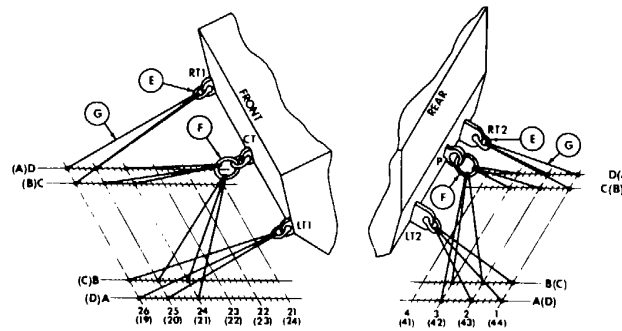
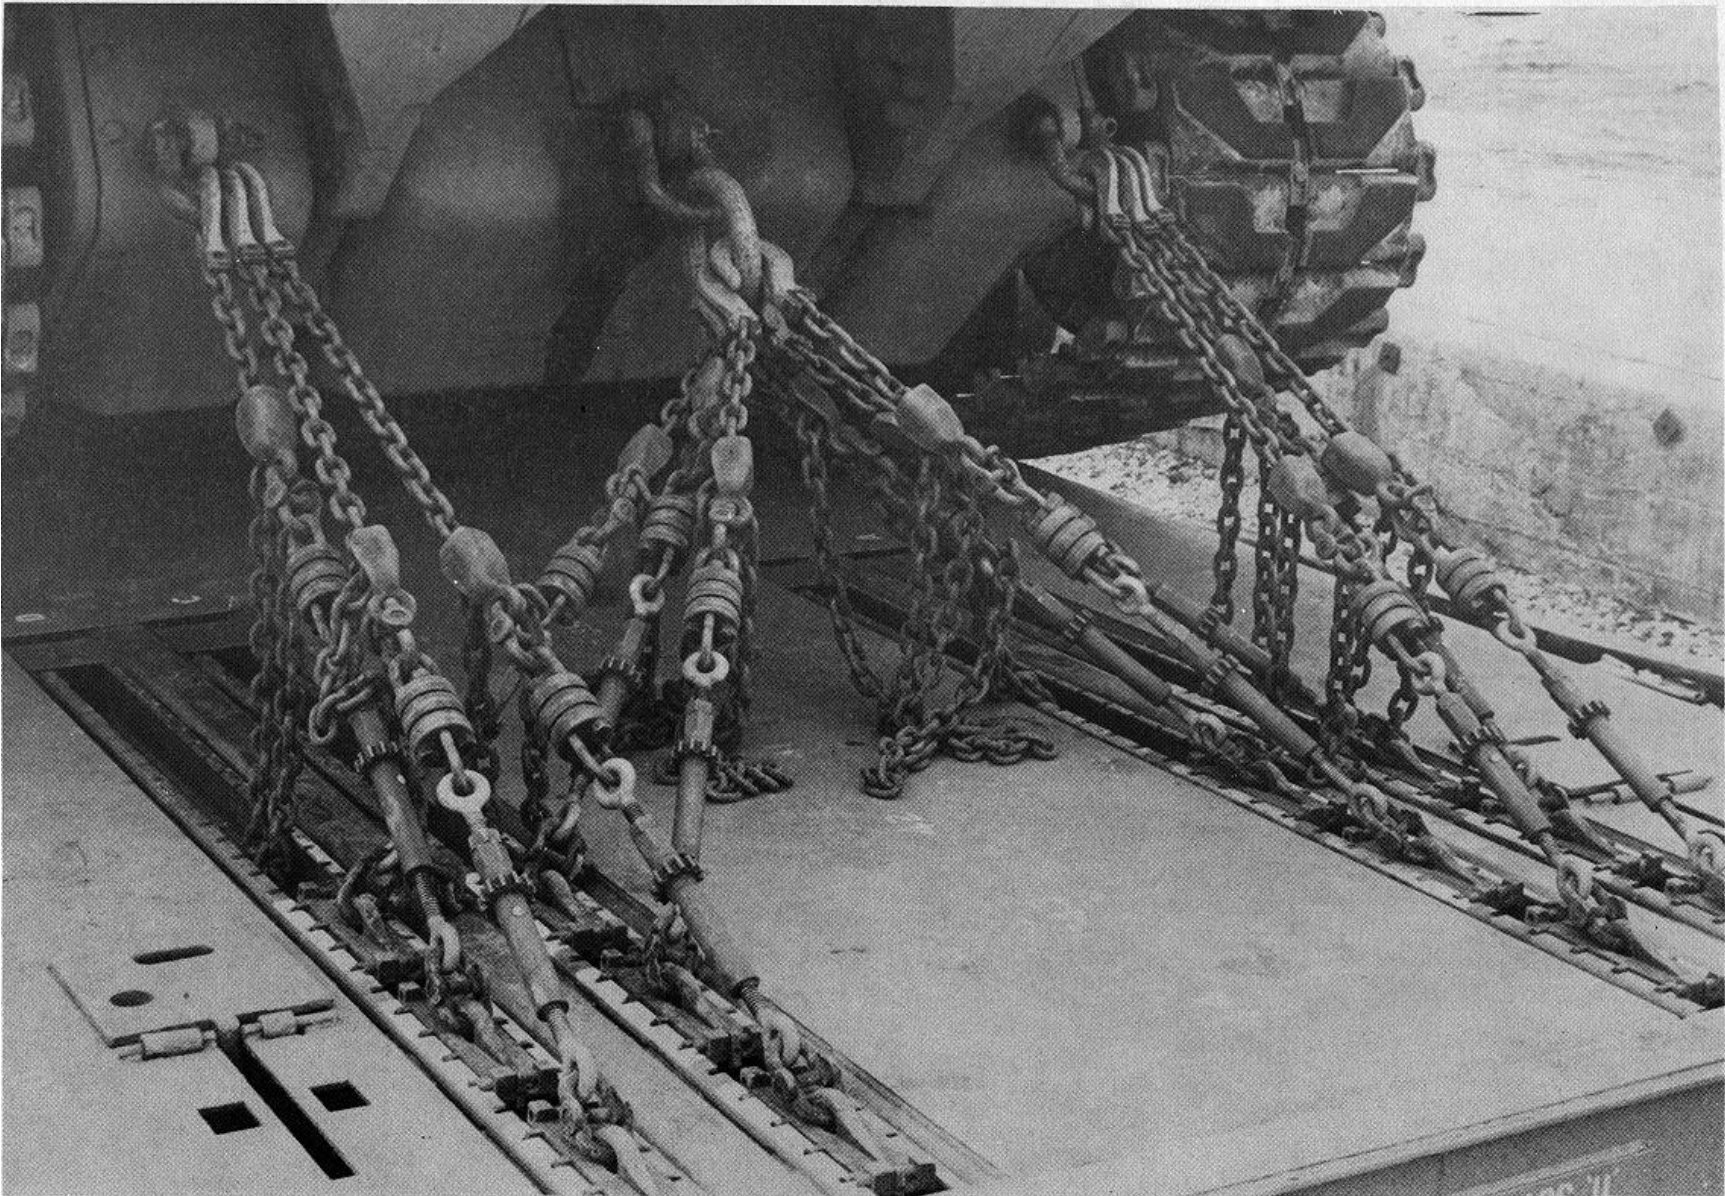

Figure 6-2. Chain tiedown arrangement for two M88 recovery vehicles.
Figure 6-3. Front view of M88 recovery vehicle loaded and restrained on 140-ton DODX flatcar.
Both vehicles must be centered over the centerline of the car so that the track overhang is about equal on both sides. Both vehicles must be facing the same direction and secured as shown in figure 6-2. Each vehicle must be positioned so that the center of the roadwheel nearest the end of the car is lined up with the white mark on the side of the car. The application of chain tiedowns for two M88 recovery vehicles is explained in table 6-3. Front, rear, and between vehicles chain arrangements are shown in figures 6-3 through 6-5, respectively.
**Table 6-3. Application of Materials for Securing Two M88 Recovery Vehicles (Fig 6-2)**
**Table 6-3. Application of Materials for Securing Two M88 Recovery Vehicles (Fig 6-2)-Continued**
**Table 6-5. Application of Materials for Securing Two M88 Recovery Vehicles Facing the Opposite Direction from that Shown in Figure 6-2 (For Location of "items," refer to fig 6-2)**